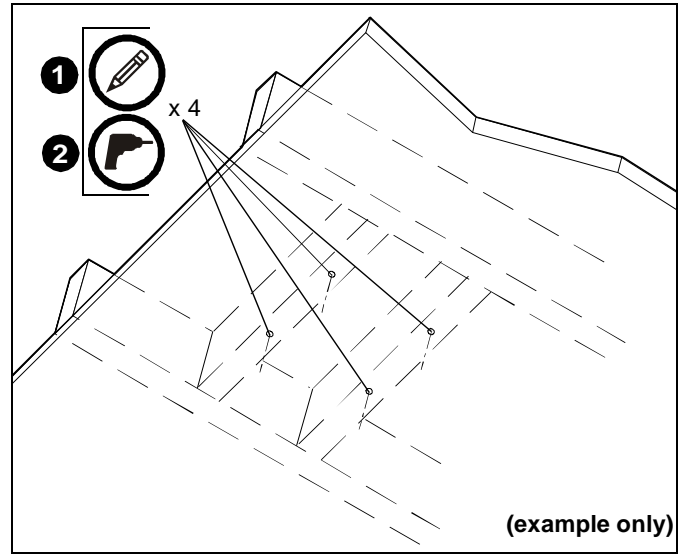

**Figure 3**
1. Install 1-1/2" NPT or NPSM steel or aluminum threaded extension column (not included) into threaded collar until tight, with a minimum of four threads engaged. (See Figure 3)
2. Thread RPE projector mount (A) onto the threaded extension column until hand tight, with a minimum of four threads engaged. (See Figure 3)
3. Turn RPE clockwise or counter-clockwise until front of mount is facing target. (See Figure 3)
4. Secure RPE to pipe by turning set screw until tight. (See Figure 3)